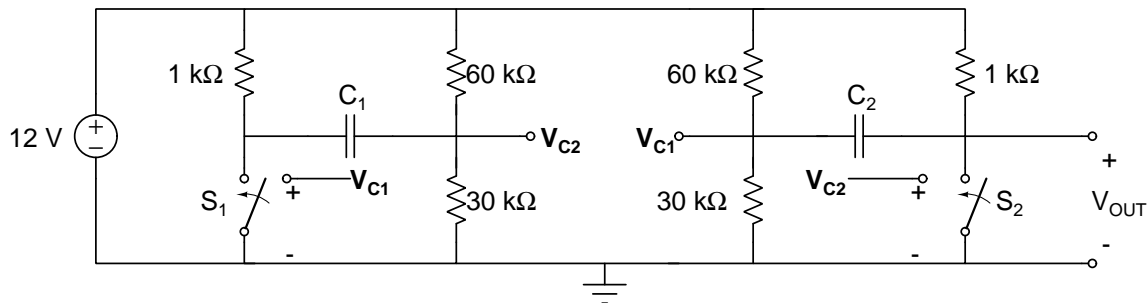

Figure 1: Astable multivibrator circuit using ideal switches.
**Circuit Design and Analysis:** The basic operation of the astable multivibrator oscillator circuit can be understood by examining an implementation of the circuit using ideal switches, as shown in Figure 1.